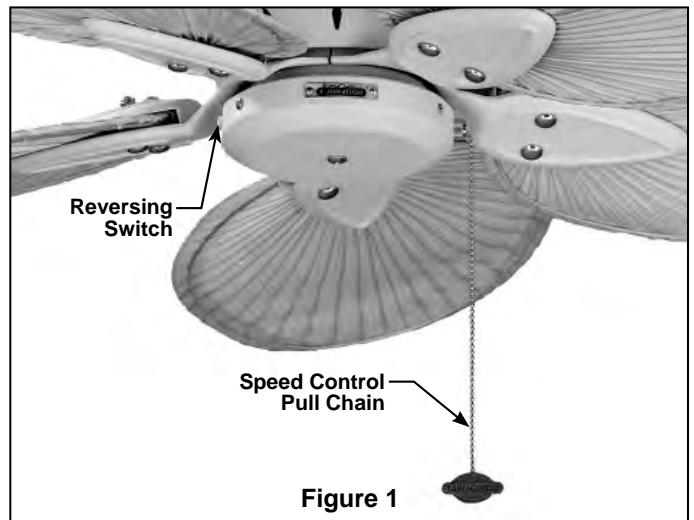

Figure 1
**2.** Check the operation of the fan by gently pulling on the pull chain switch. (Figure 1)